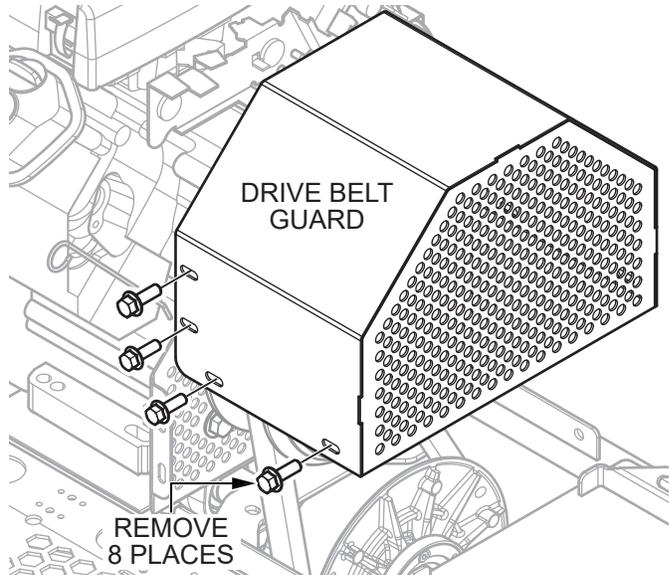

Figure 29. Drive Belt Guard Removal
To gain access to the drive belt, remove the drive belt guard cover (Figure 29), then visually inspect the drive belt for signs of damage or excessive wear. If the drive belt is worn or damaged, replace the drive belt.
1. To gain access to the drive belt, remove the drive belt guard (Figure 29).